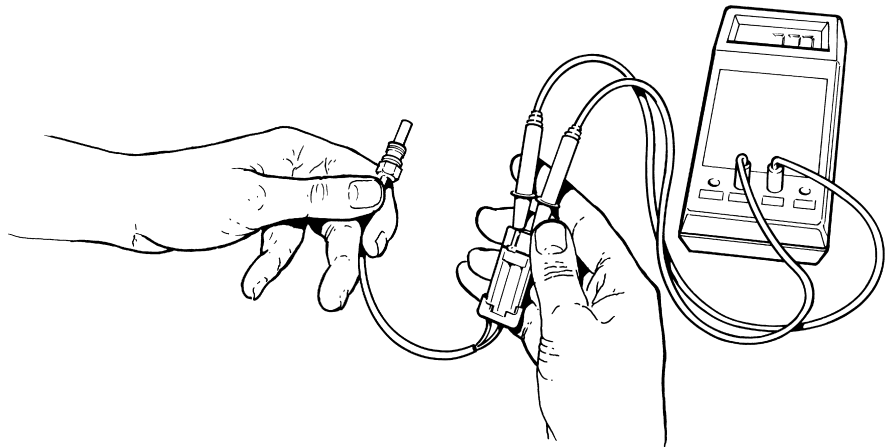

Figure 4-15. Temperature Sensor Test
- Connect a multimeter (adjusted to measure resistance) to the temperature sensor as per figure 4-15. The polarity of the sensor connections to the multimeter is not important.